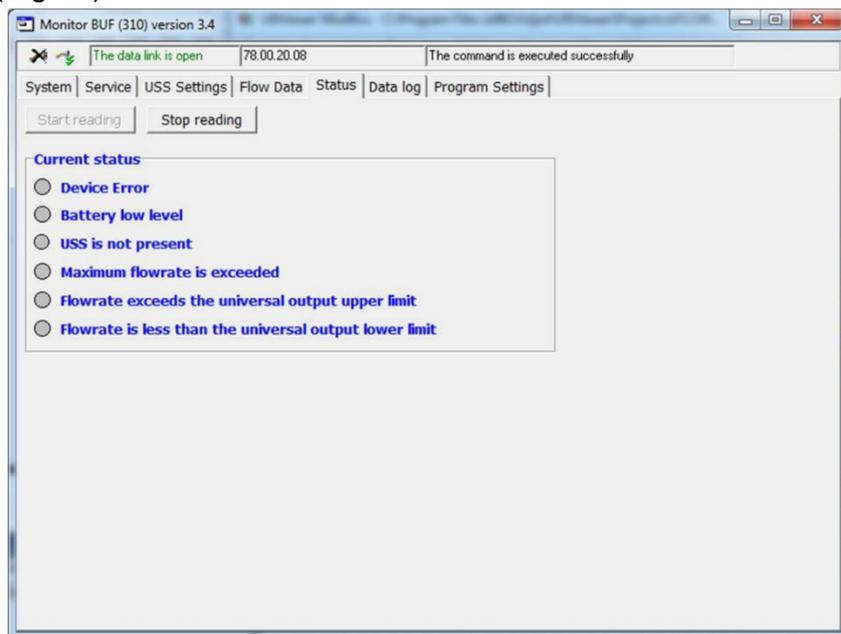

Fig.13. View of the Status tab
4.1.5. The current state of the flow meter (presence/absence of emergencies) is displayed on the **Status** tab after pressing the **Start reading** button (Fig.13).